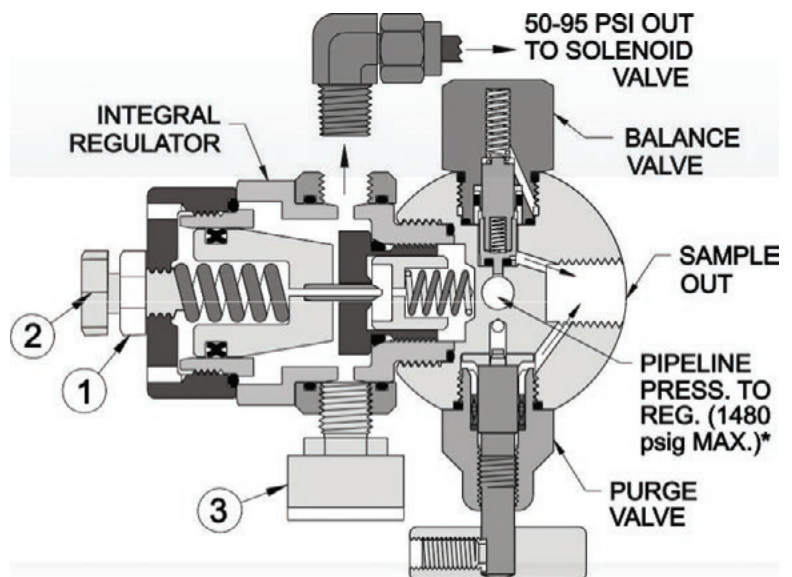

Figure 21: PF3 System Configurations
D. All PF3 Pump Style System Configurations (refer to Figure 21)